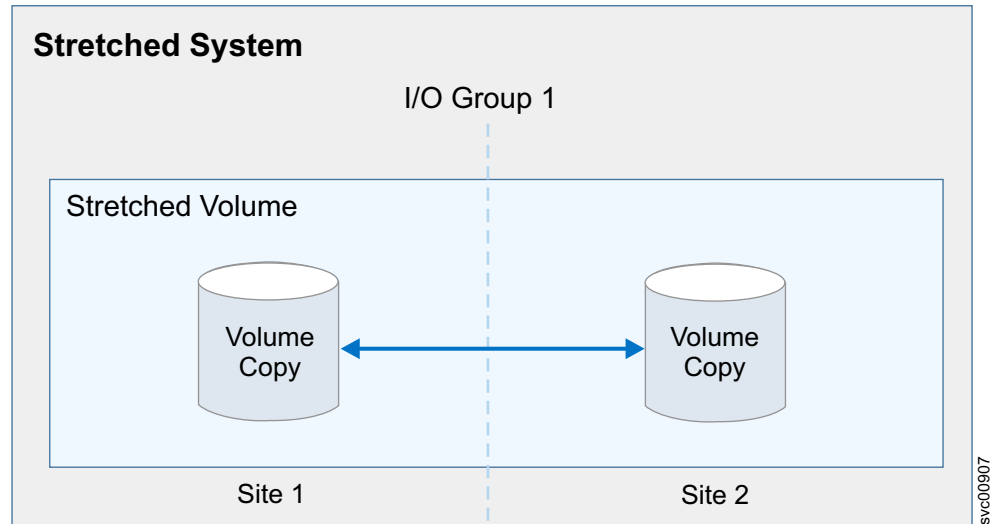

Figure 5. Example of stretched volumes
- *Stretched volumes*, where copies of a single volume are in different storage pools at different sites. As Figure 5 on page 5 shows, the volume is cached in one I/O group. Stretched volumes are only available in stretched topology systems.